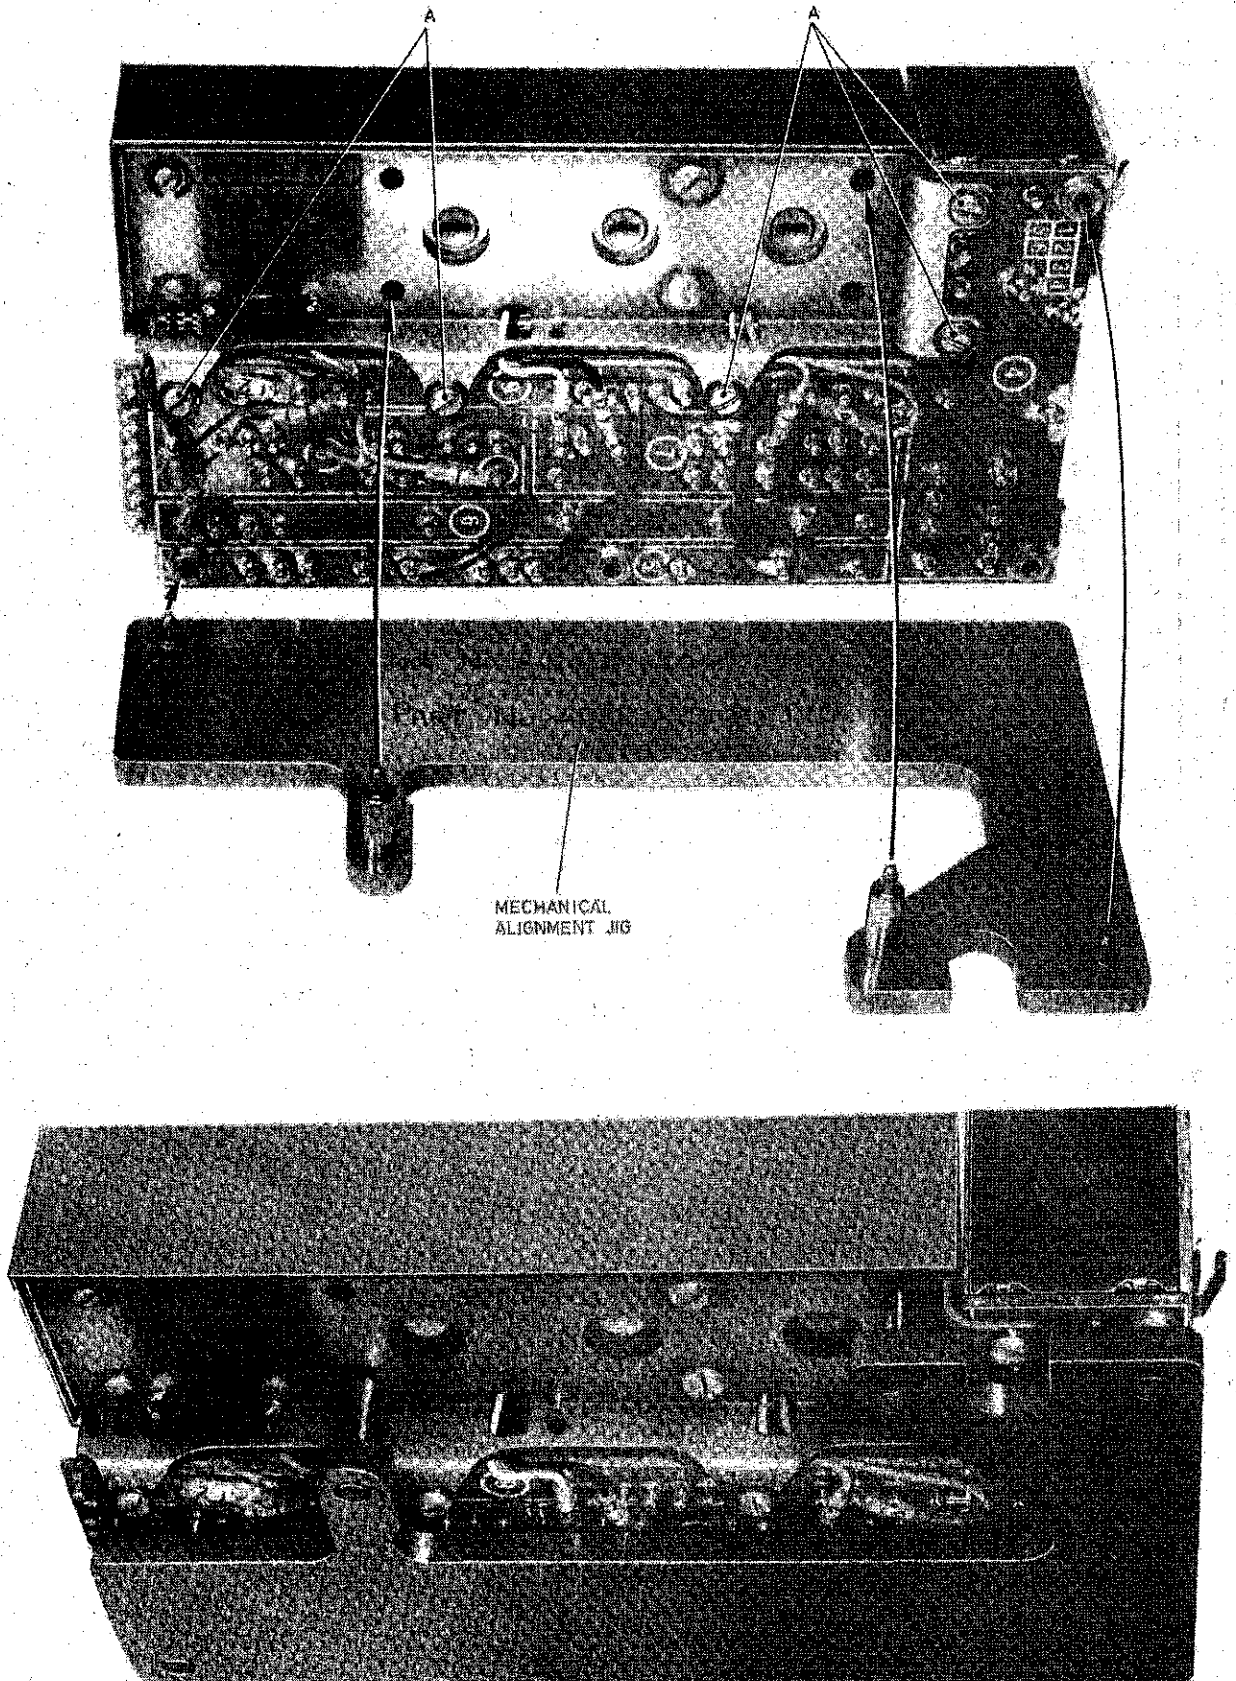

Fig 5 - Fitting synthesizer-to-motherboard mechanical alignment jig
56. Re-assembly instructions are the reverse to those in para.40. However, the synthesizer should be positioned with respect to the motherboard by using the mechanical alignment jig (item 10, Table 2). Fit the synthesizer initially with the five 2.5 mm screws and washers not tightened. Fit the jig (Fig 5) ensuring that all four dowels are properly located in the relevant holes, then tighten the five screws. Ensure that the flying leads are clipped to the correct terminals on the motherboard (F 602, Fig 2005).